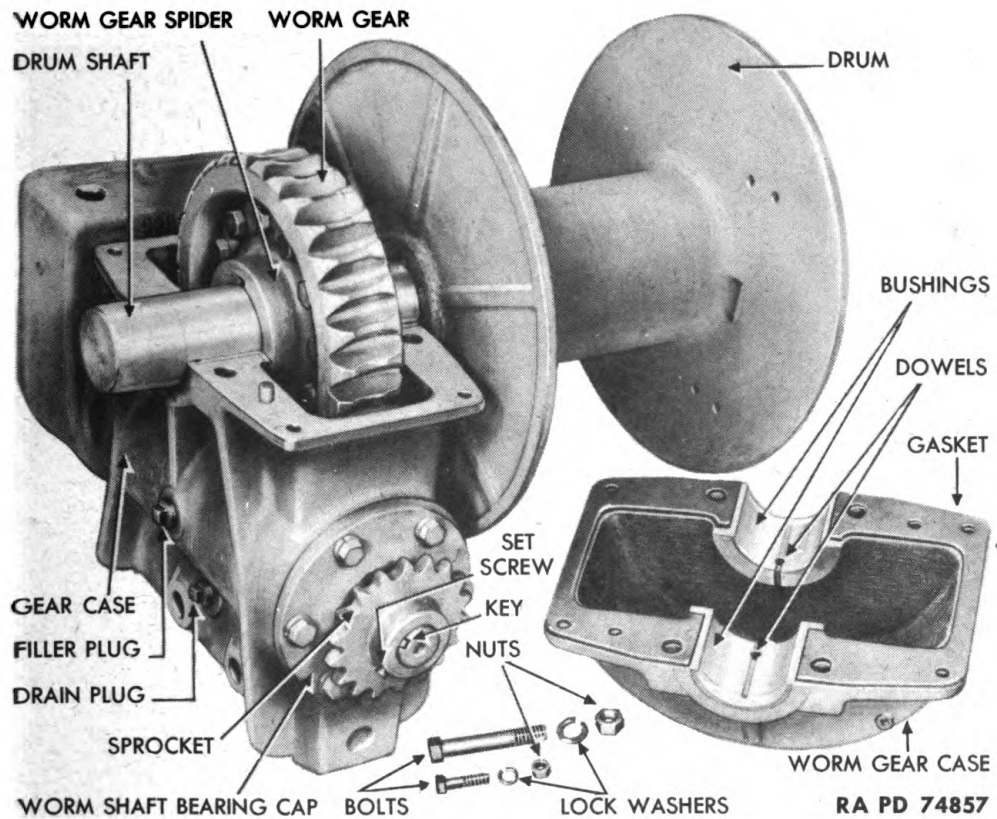

Figure 23 – Drum and Drum Shaft
b. **Remove Worm Gear and Drum Assembly (fig. 23).** Remove bolts, nuts, and lock washers that secure worm gear case cover, and remove cover with bushings. Lift drum with drum shaft and worm gear out of gear case. Lift drum with drum shaft and worm gear out of gear case.